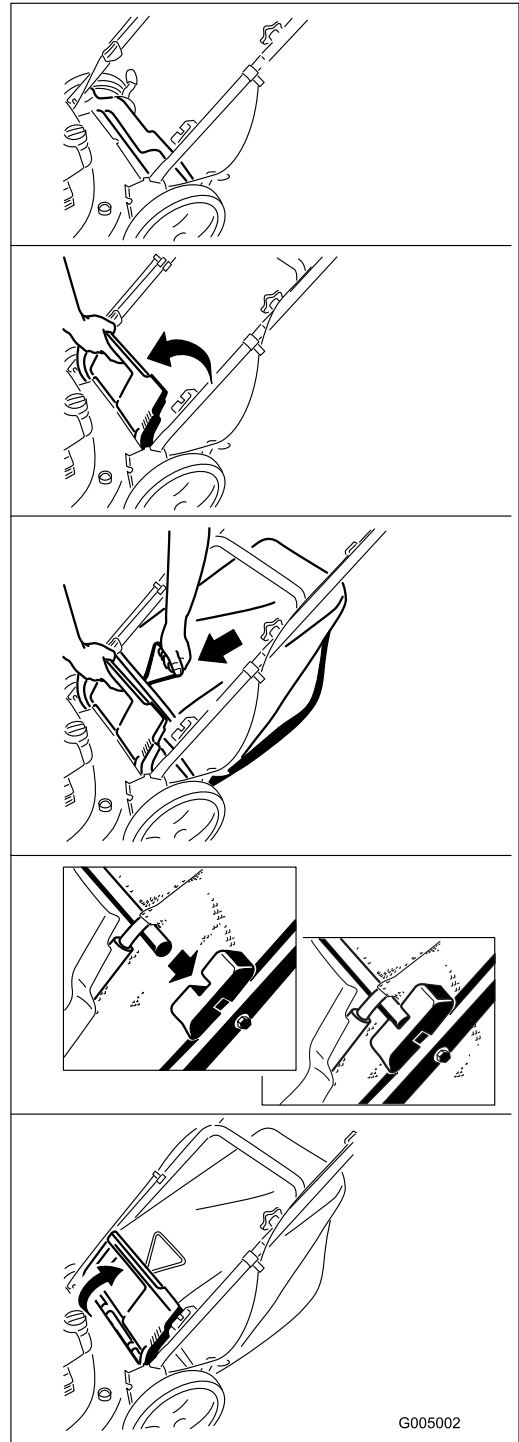

Figure 27
2. Install the grass bag (Figure 27).